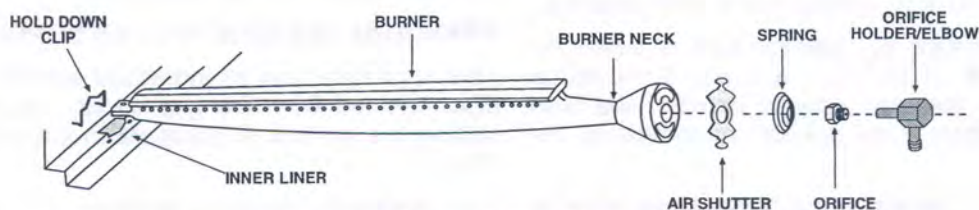

Figure 4 - Burner Orifice Diagram
a. After checking orifice drill size, install the Air Shutter Spring and the Air Shutter over the orifice holder fitting, between the Burner and the Heat Shield, in the order and position shown in (Figure 4).